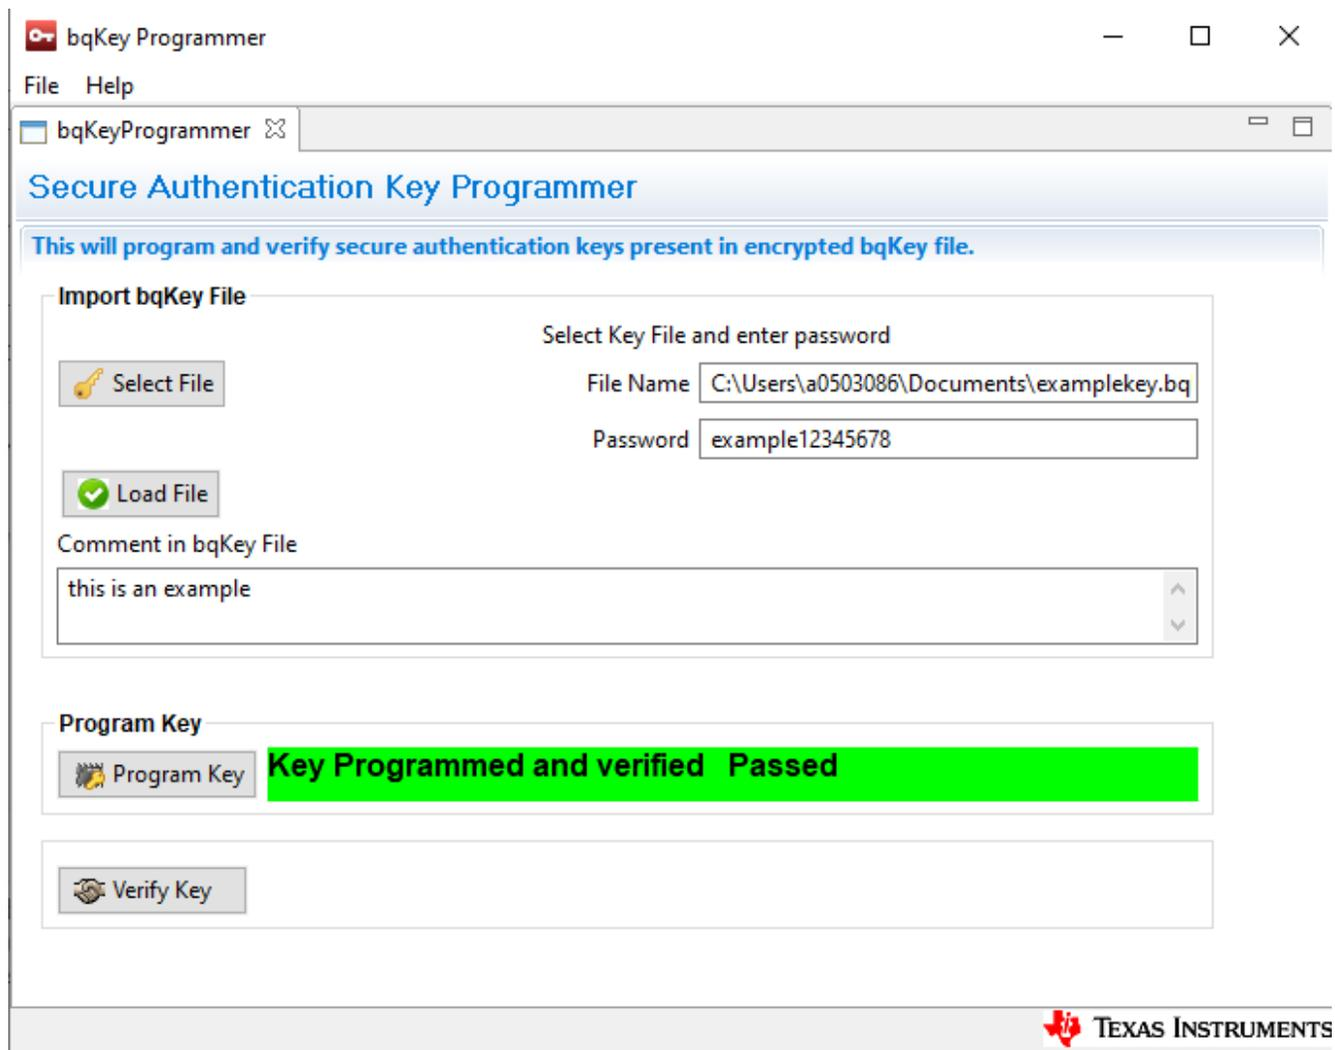

Figure 2-1. BQKEYPROGRAMMER Example
Step 7: **Programming is one time only and can not be reversed.** Click *Program Key*, If the key is successfully programmed, then a green box needs to appear stating *Key Programmed and verified Passed* as shown in Figure 2-1.